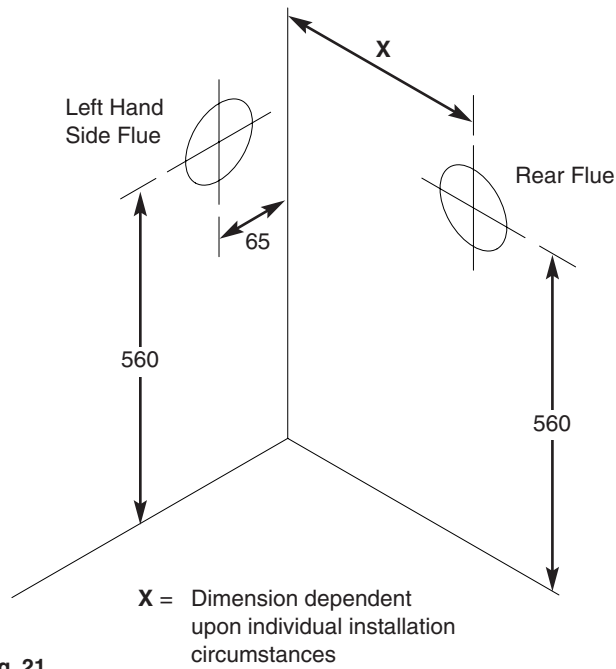

Fig. 21
1. Mark the centre of the flue hole as shown (Figs. 21 & 22). If required, mark the position of the gas and water pipes (see Section 5.0).